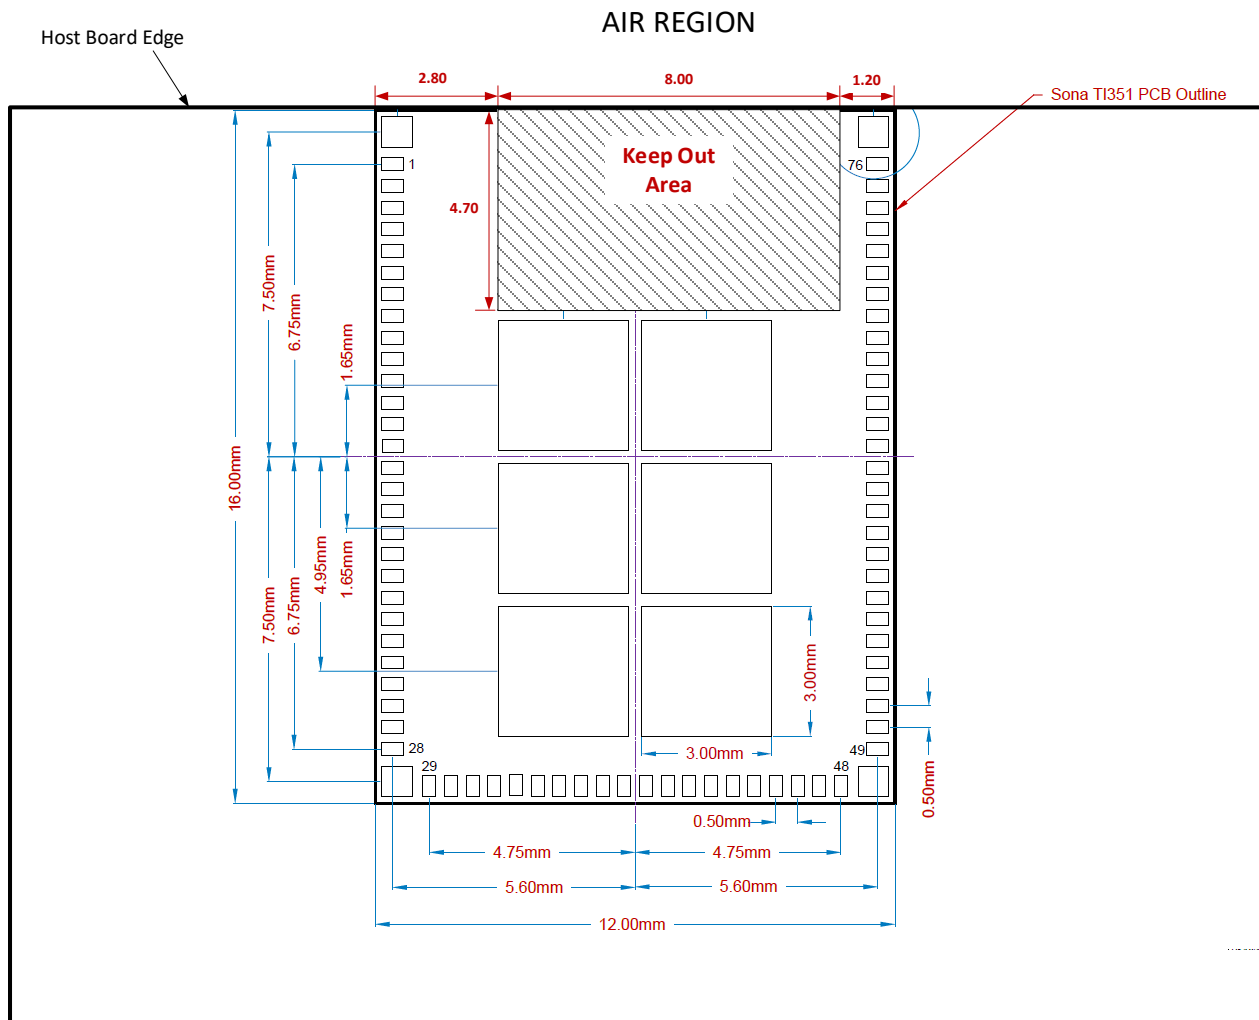

Figure 8: TI351 Integrated Chip Antenna Module Host Board Keep Out requirements.
- The Sona TI351 Integrated antenna variant MUST BE located at the edge of the Host PCB and surrounded by ground on three sides. The antenna keep out region as defined in Figure 8 must be kept clear of copper on all layers of the host PCB. Extending the ground on the Host PCB ≥ 15mm from the module edge in each direction will optimize antenna performance.